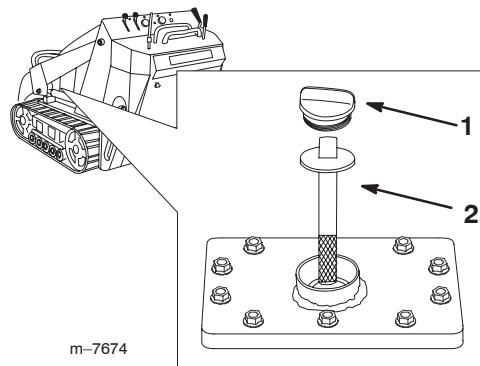

Figure 47
5. Remove the hydraulic tank cap and dipstick (Fig. 47).